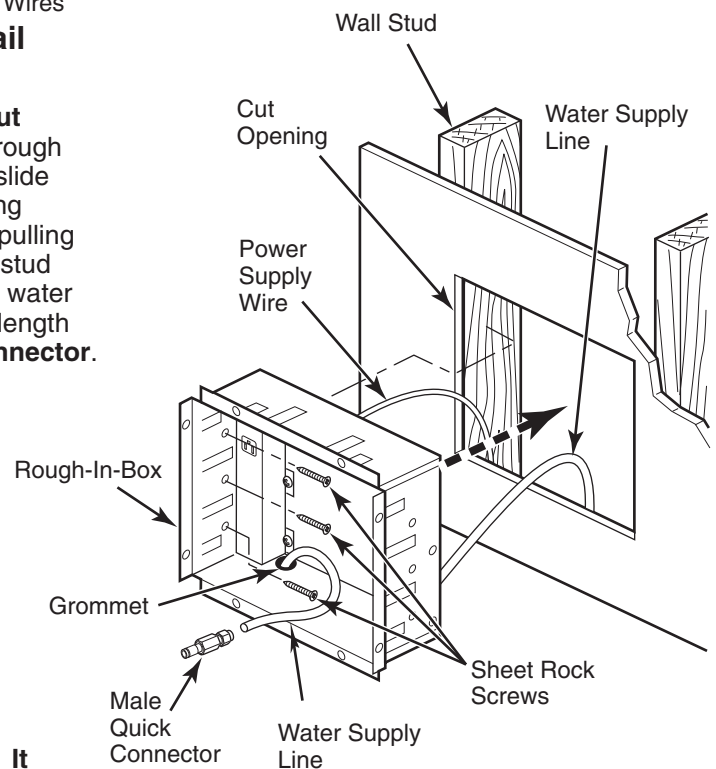

Figure 5.
4. Bring 1/4" **water supply line** from source (see page 5) to **cut opening** as shown in **Figure 3**, page 7. Bring water line through **grommet** in **rough-in-box** (See **Supply Detail**). Carefully slide **rough-in-box** as shown into **cut opening** while gently pulling **water supply line** through **grommet** hole in **rough-in-box** pulling through excess (approx 18"). Secure **rough-in-box** to wall stud with **sheet rock screws**. PURGE WATER LINE by running water through line to clean any possible debris. Cut water line to length (approx 3") inside **rough-in-box** and attach **male quick connector**. (See **Male Connector Detail**) and **Figure 5**.